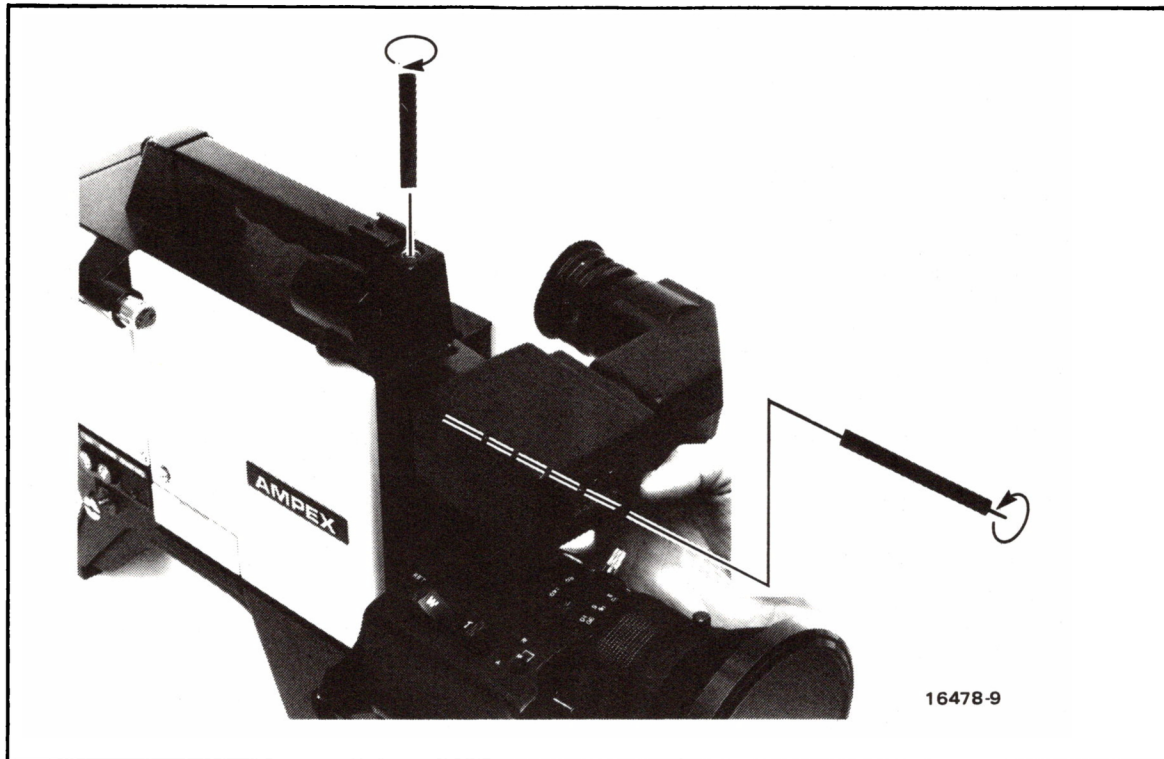

Figure 2-4. Mounting Viewfinder to Camera
- STEP 1 Position viewfinder relative to the camera as shown in Figure 2-4.
- STEP 2 Mate the viewfinder connector to the connector on the camera. Ensure that the mounting tongue (see Figure 2-4) slides into the slot provided in the base of the handle.